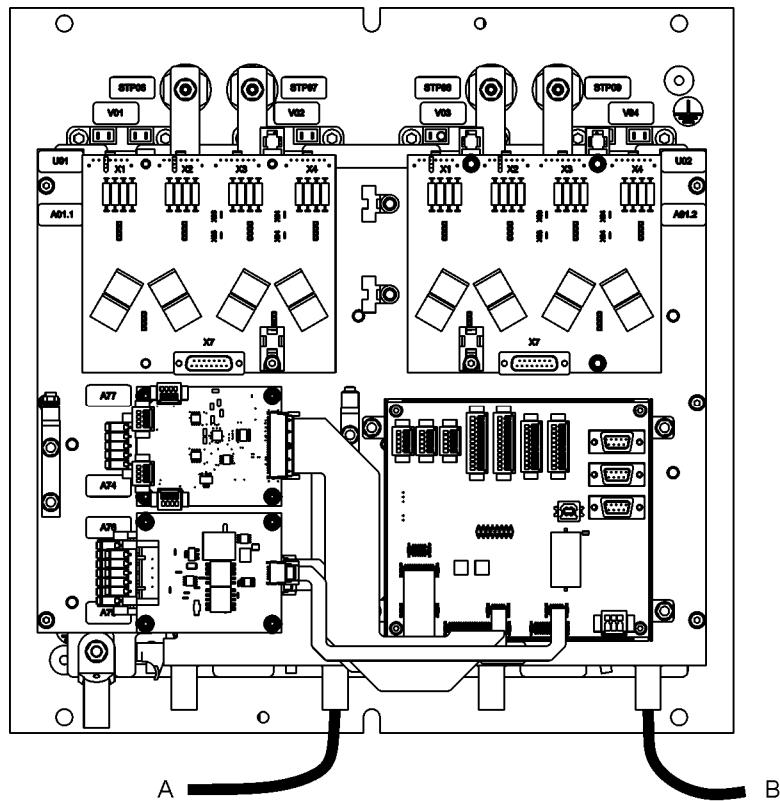
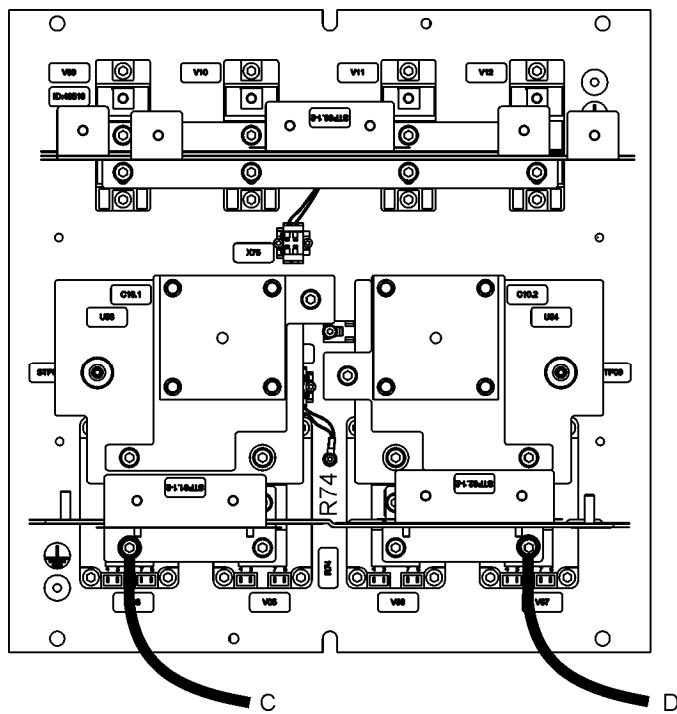

Figure 5-22: L202.1.-2 Electrical Connections on BBC Module A221
Figure 5-23: L202.1-2 Electrical Connections on SRC Module A222
5. Disconnect L202. In Figure 5-22 and in Figure 5-23, the electrical connections for L202.1 are labeled A and C and the electrical connections for L202.2 are labeled B and D.
- a. Disconnect cables on the BBCM (see Figure 5-22). Each choke has a lead that is terminated on the A221 module. Consult the figure and legend for the applicable STP point on the A221 to disconnect. The cables are fastened with M6 nut, M6 Schnorr washer and M6 washer. Remove these fasteners and disconnect the resistor from the A221 module.
- b. Disconnect cable on the SRC module (see Figure 5-23). Each choke has a lead that is terminated on the A222 module. Consult the figure and legend for the applicable STP point on the A222 to disconnect. The cables are fastened with M6 nut, M6 Schnorr washer and M6 washer. Remove these fasteners and disconnect the resistor from the A222 module.
4. Connect L202. In Figure 5-22 and in Figure 5-23, the electrical connections for L202.1 are labeled A and C and the electrical connections for L202.2 are labeled B and D.
- a. Connect cables on the BBCM (see Figure 5-22). Each choke has a lead that is terminated on the A221 module. Consult the figure and legend for the applicable STP point on the A221 to disconnect. The cables are fastened with M6 nut, M6 Schnorr washer and M6 washer. Connect the cables and affix these fasteners and connect the coke to the A221 module.
- b. Connect cable on the SRC module (see Figure 5-23). Each choke has a lead that is terminated on the A222 module. Consult the figure and legend for the applicable STP point on the A222 to disconnect. The cables are fastened with M6 nut, M6 Schnorr washer and M6 washer. Connect the cables and affix these fasteners and connect the choke to the A222 module.